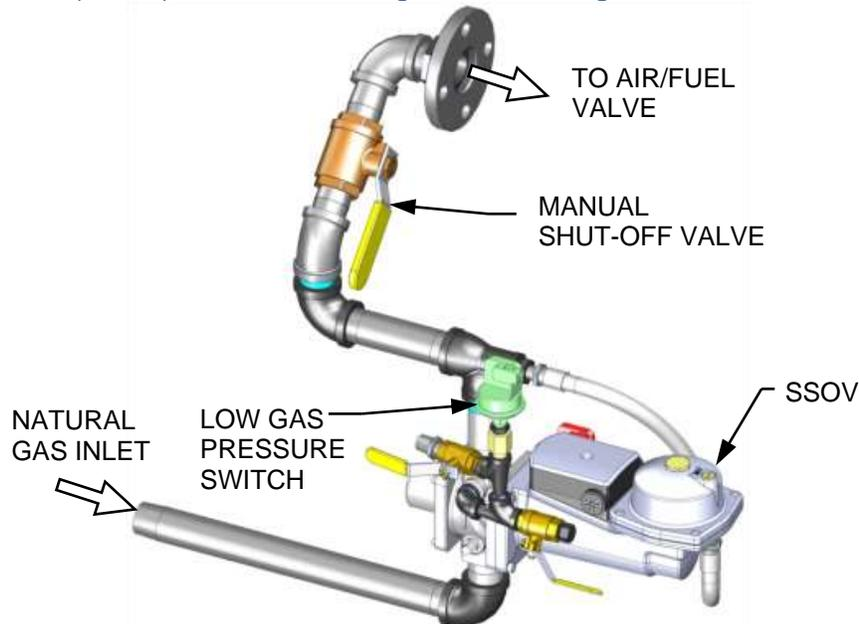

Figure 3-1a: BMK 750 & 1000 SSOV Location (P/N 22140-1 shown)
2. The unit checks to ensure that the Proof of Closure (POC) switch in the downstream Safety Shut-Off Valve (SSOV) is closed. See Figure 3-1a through 3-1d for SSOV location.